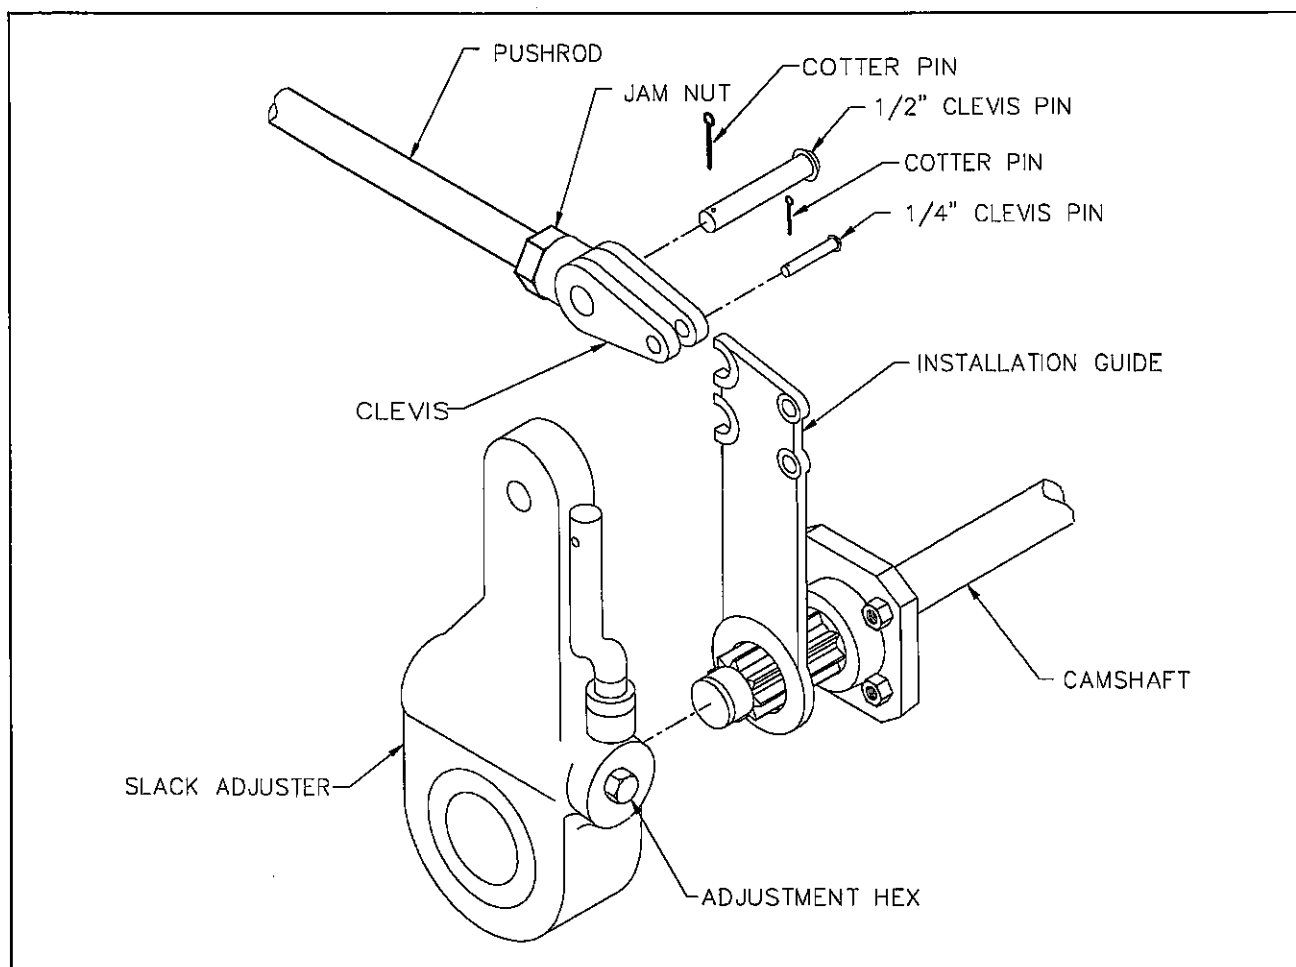

Fig. 4-4 Slack Adjuster (Crewson Brunner)
4. Disconnect the slack adjuster from the connecting rod by removing the clevis pin (See Figure 4-4).
4. Remount the brake chamber on the axle brackets and reconnect the air service hoses and the slack adjuster connecting rod (See Figure 4-4).
a. **Operational Check (see Figure 4-4)**
b. Replacing Slack Adjuster (See Figure 4-4)